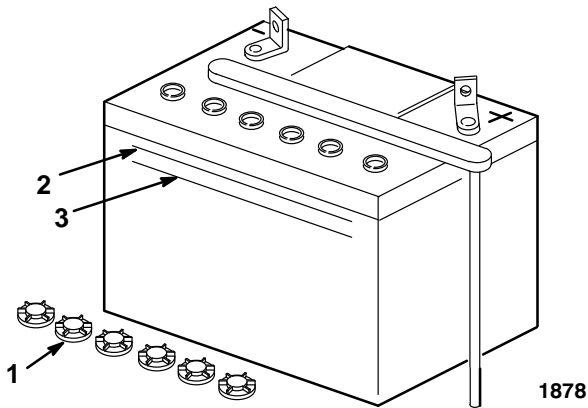

Figure 31
2. Look at the side of the battery. The electrolyte must be up to the “UPPER” line (Fig. 31). Do not allow the electrolyte to get below the “LOWER” line (Fig. 31).
2. Unscrew the filler caps (Fig. 31).
3. Slowly pour distilled water into each battery cell until the level is up to the “UPPER” line (Fig. 31) on the battery case.